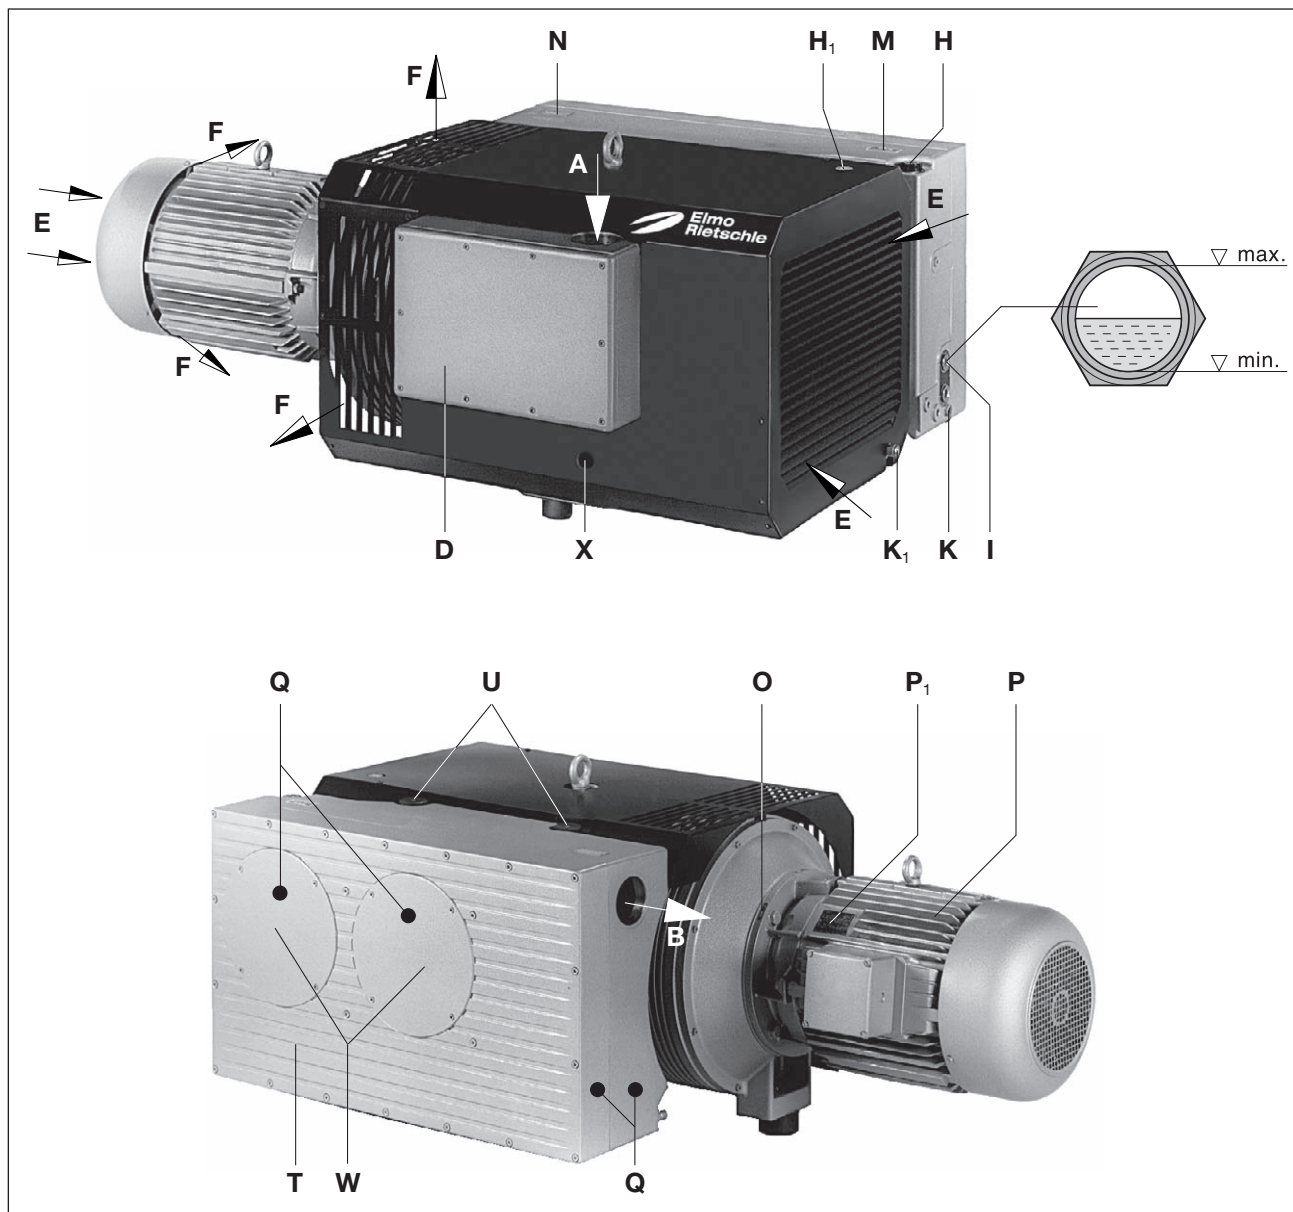

Fig. 2 Vacuum pump V-VC 400 - V-VC 1300
A gas ballast valve fitted as standard (Fig. 2/U) prevents condensation of water vapour in the inside of the pump when low amounts of steam are sucked in when the pump is at operating temperature. A reinforced gas ballast can be provided for higher amounts of water vapour.
The filter housing (Fig. 2/D), oil filling point (Fig. 2/H, H₁), oil sight glass (Fig. 2/I), oil outlet (Fig. 2/K, K₁), gas ballast (Fig. 2/U) and oil remover housing (Fig. 2/T) must be easily accessible. The cooling air inlets (Fig. 2/E) and the cooling air outlets (Fig. 2/F) must be at least 30 cm away from adjacent walls. Discharged cooling air must not be sucked in again. For maintenance work there must be a space of at least 50 cm around the machine.
The air vent (Fig. 2/B) must not be closed or restricted.
- a) The vacuum connection (Fig. 2/A) is on the filter housing (Fig. 2/D).
- b) The discharged air can be freely blown out through the exhaust air hole (Fig. 2/B) or conducted away using a hose or pipe.
- a) Fill the lubricating oil (for suitable types see the „Maintenance“ section) via the oil filling points (Fig. 2/H₁) up to the upper edge of the sight glass (Fig. 2/I).
- a) The motor's electrical data is given on the data plate (Fig. 2/N) or on the motor data plate (Fig. 2/P₁). The motors comply with DIN EN 60034 and are in protection class IP 55 and insulation class F. The appropriate connection diagram is located in the motor's terminal box (not for the plug connection version). The motor data must be compared with the data of the existing mains network (current type, voltage, network frequency, permitted current value).
When the machine is at operating temperature the surface temperatures on the components (Fig. 2/ Q) may go above 70°C.
- ▷ The drive shaft direction of rotation is shown by the rotation direction arrow (Fig. 2/O) on the motor flange.
- b) After correcting the direction of rotation if necessary, start the motor again and stop it again after 2 minutes in order to top missing oil up to the upper edge of the sight glass (Fig. 2/I). If the filling point (Fig. 2/H,) is not accessible, this top up must be repeated at the filling point (Fig. 2/H) until the oil cooler has been completely filled. The filling point must not be open when the pump is running.
- ▷ The operating range can be set by turning the adjusting bolt (Fig. 2/X, 4/X).